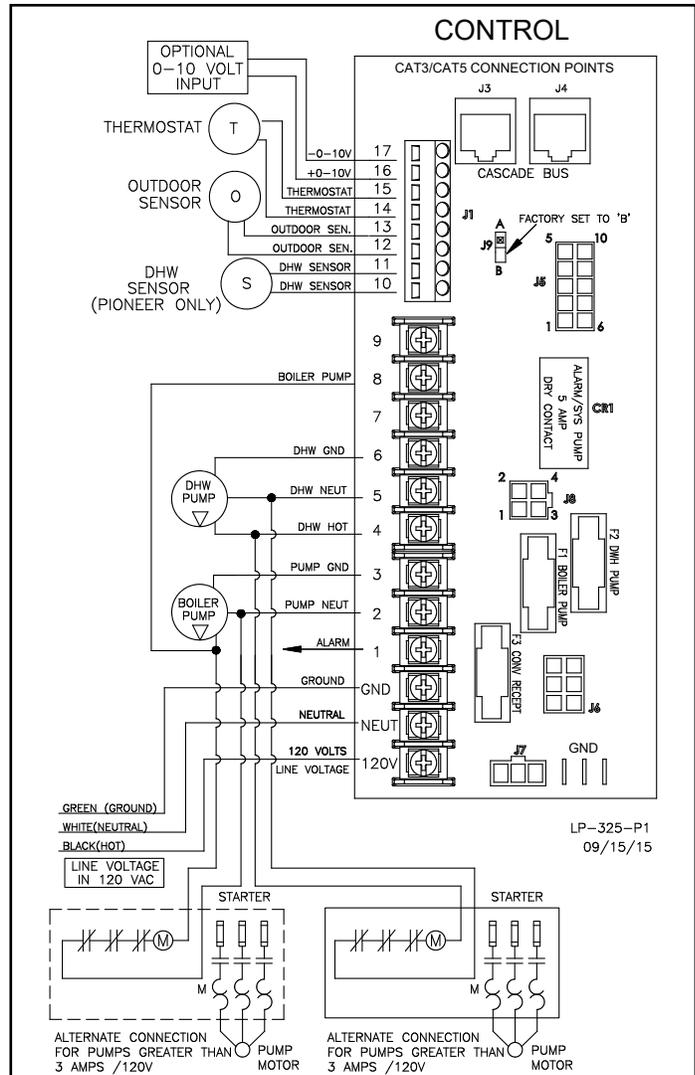

Figure 22 - Standard Appliance Customer Connection Board Detail
2. Connect the central heating pump to the terminals marked 8 (HOT), 2 (NEUT), 3 (GND) in Figure 22. The connections shown are suitable for a maximum continuous pump draw of 5 amps at 120 volts. If the pump requires more current or voltage other than 120 volts, an external motor starter or contactor will be required.